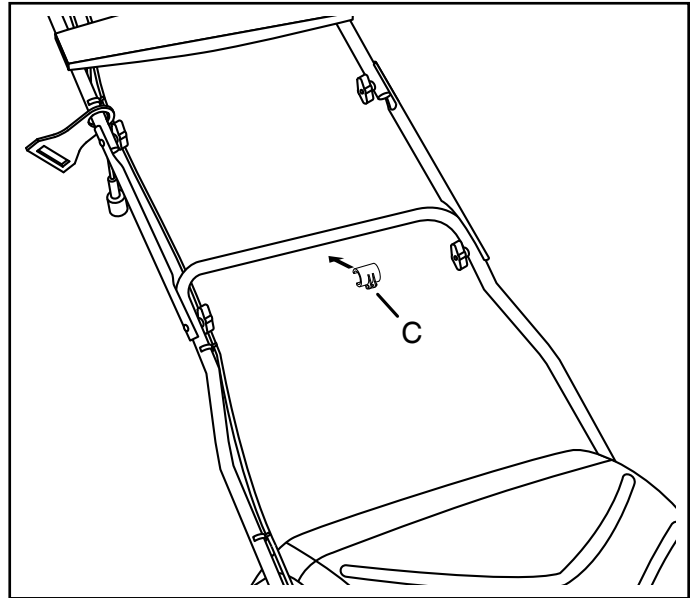

FIGURE 7
STEP 7: (SEE FIGURE 7)
- Connect the bag support clip (C) to the lower handle tube.